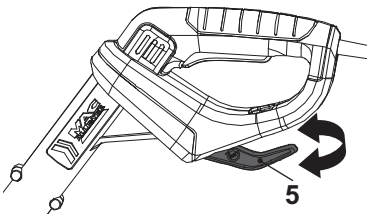

Fig. 29
3. Push the plant protector (13) in if necessary.
4. Rotate the cord container (rotatable) (5) and make sure that the tip of cord container (rotatable) (5) is pointed backward (Fig. 29).